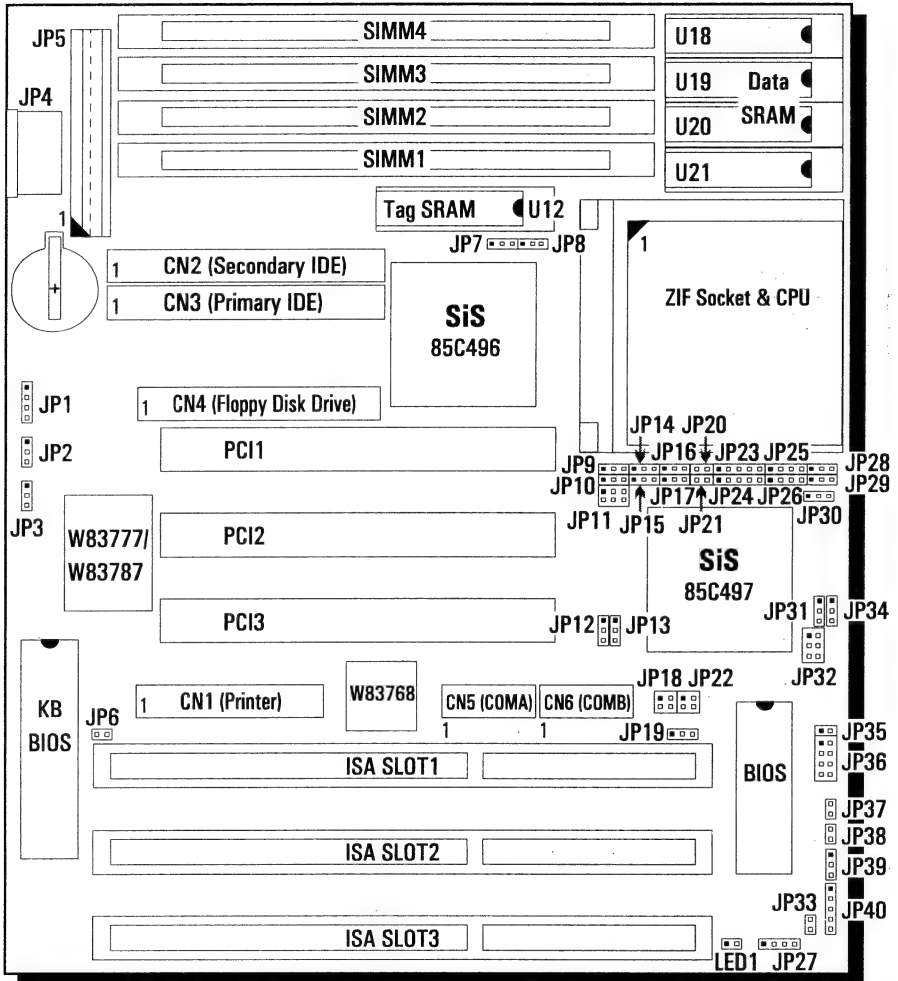

Figure 1. The main board layout
2. Find the ZIF socket. Refer to Figure 1, "The main board layout," for the location of ZIF socket on the board.
Refer to Figure1, "The main board layout," for the location of SRAM sockets on the board. The description of jumper switches JP7-JP8 later in this chapter lists the type of chips to install for each memory configuration.
This section describes some of the connectors on the main board. See Figure 1 for the location of the connectors on the board. Refer to the appendix for a listing of the connectors' pin signals.